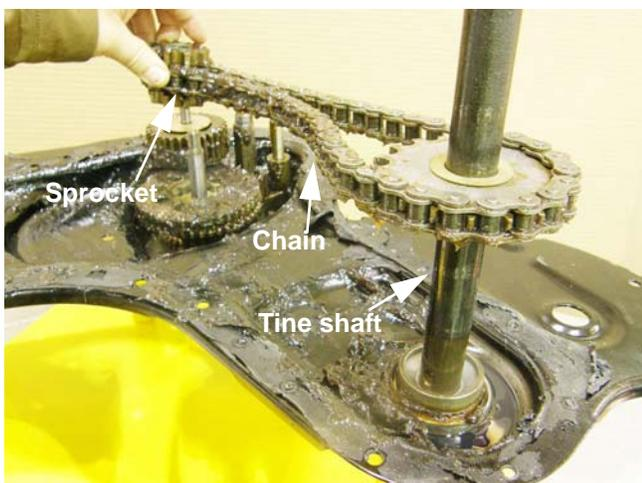

Figure 5.32
4. Lift the tine shaft assembly, chain and sprocket out of the housing together. See Figure 5.32.